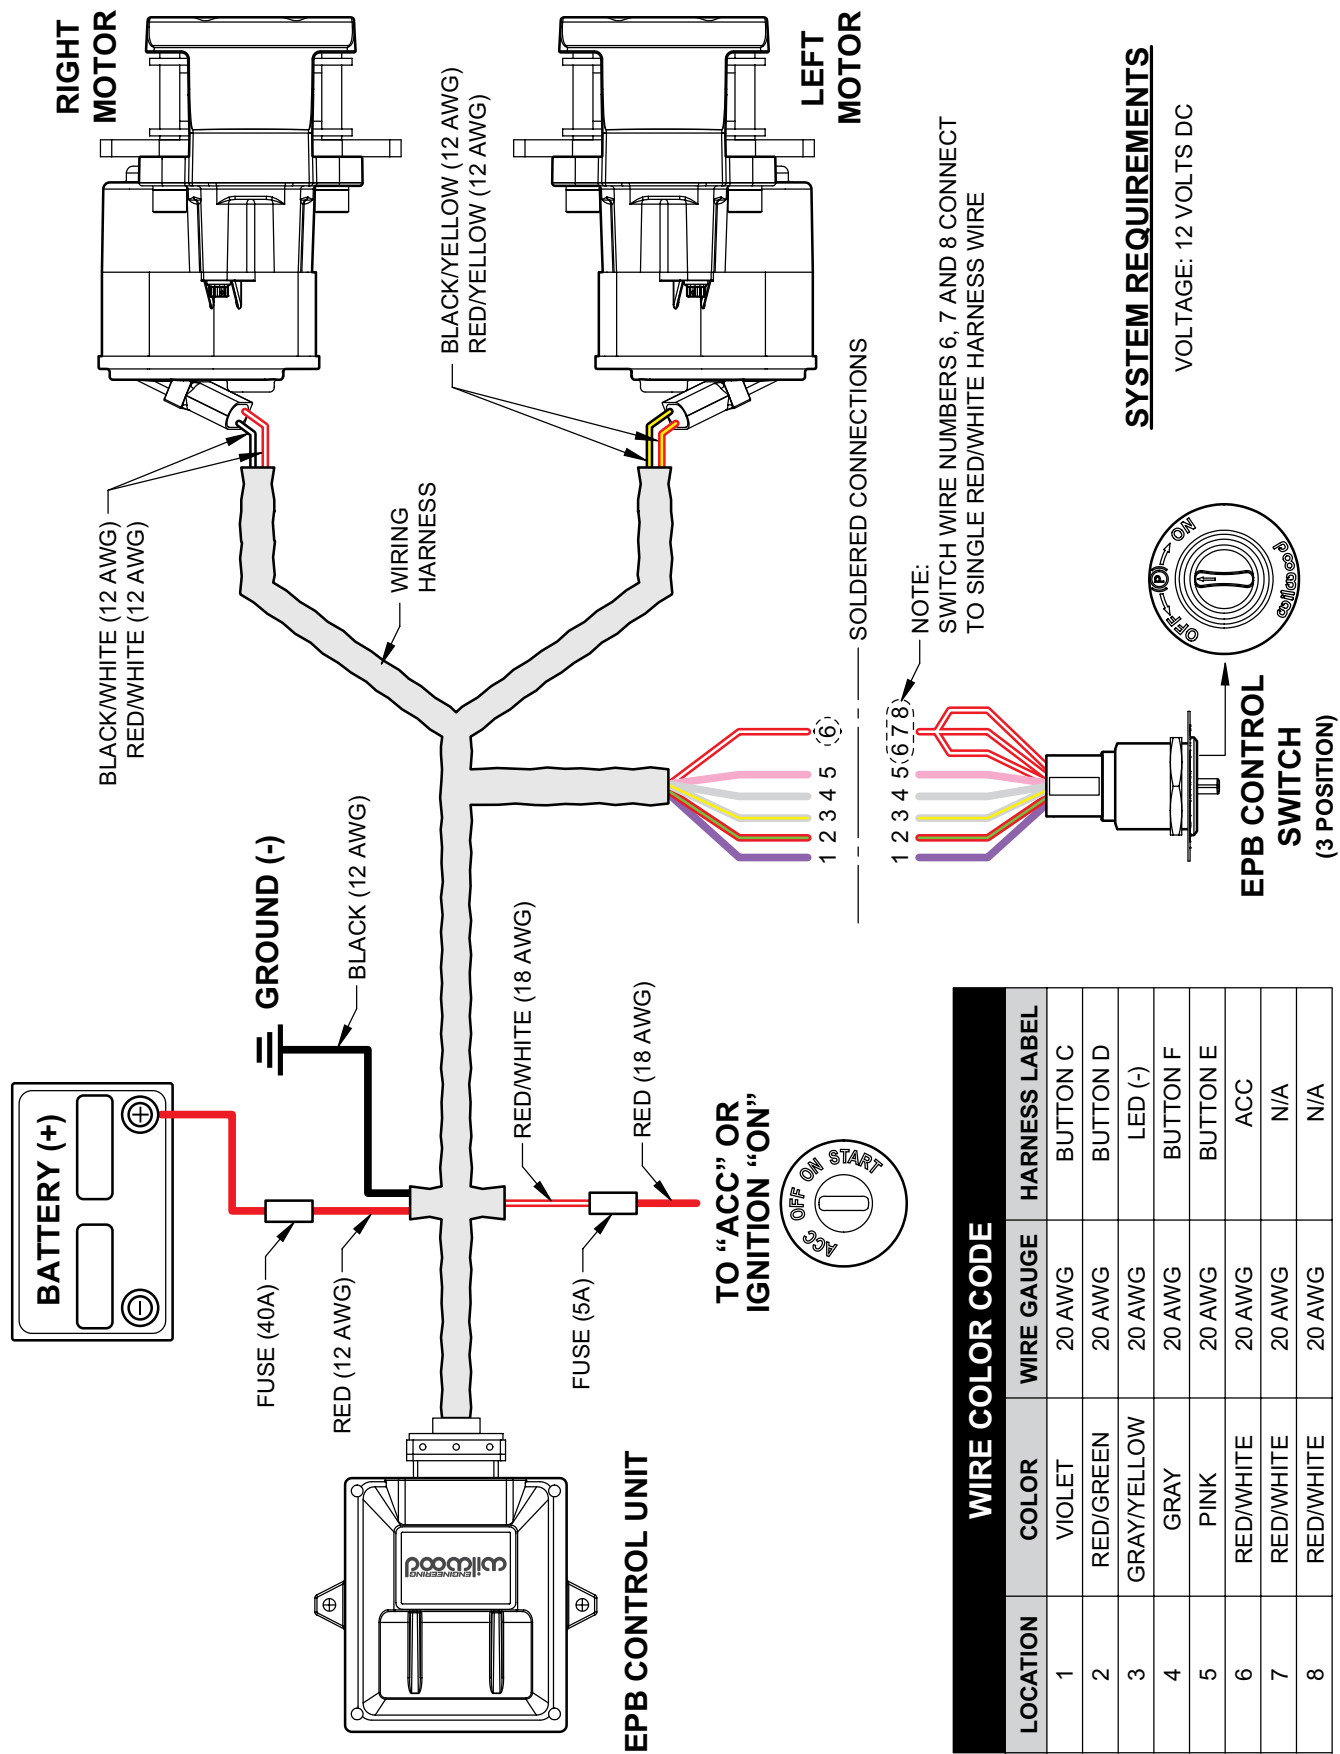

Figure 4. EPB Wiring Diagram
- **EPB WIRING HARNESS** - All wiring harness leads are labeled – refer to wiring diagram, Figure 4. Carefully route harness cables/wires to prevent contact with moving or rotating components and away from heat sources and pinch points. **NOTE:** *Wilwood EPB harness is designed for use in many different vehicle applications and it is the installer's responsibility to properly route cables/wires and ensure adequate clearance and retention for EPB components.*
Wiring installation - Refer to wiring diagram. Figure 4